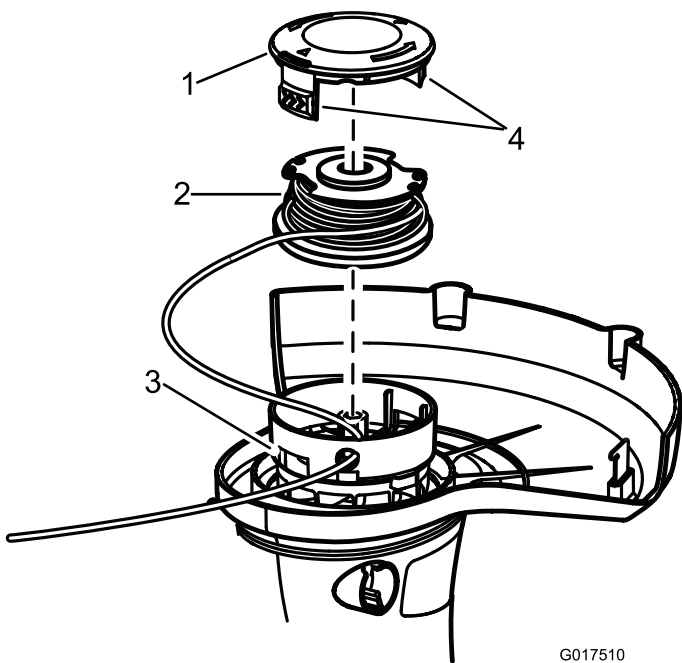

Figure 10
2. Push in the tabs on the side of the spool retainer (Figure 10).